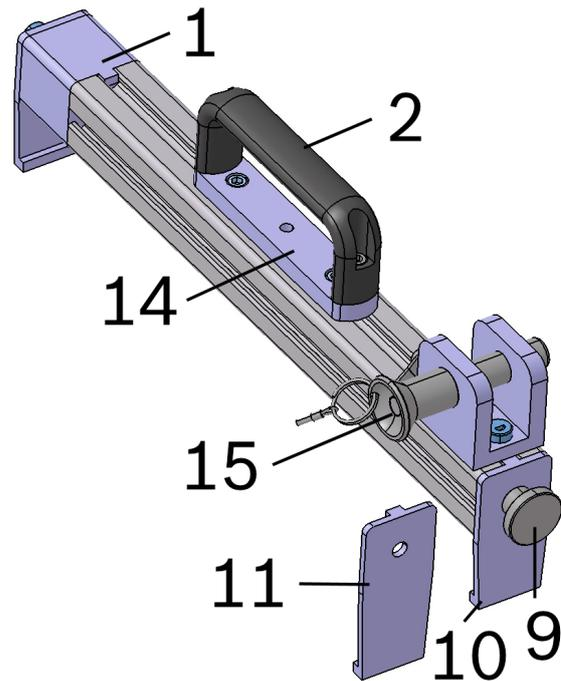

Figure 2: Lifting clamp
- Lift the battery module by the handle (2) from the battery case by hand (see Figure 2).